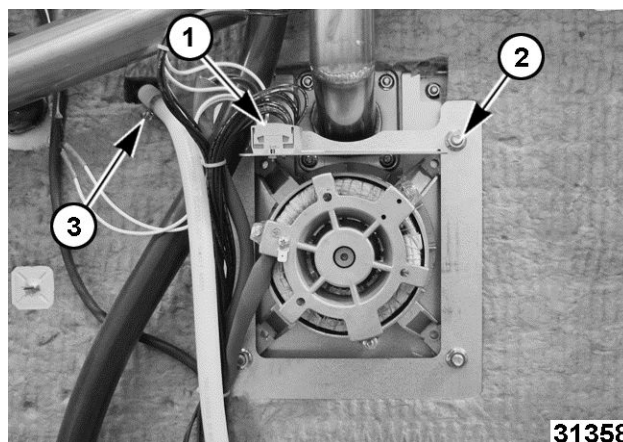

Fig. 86
3. Remove humidity hose clamp (3, Fig. 86).
4. Note and disconnect motor wires. (1, Fig. 86).
5. Remove nuts, shroud and spacers if they exist. (2, Fig. 86).